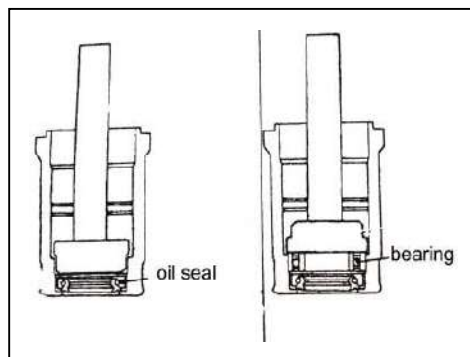

Fig 17-40
6) UPPER OIL SEAL/UPPER BEARING INSTALLATION(See fig 17-40)